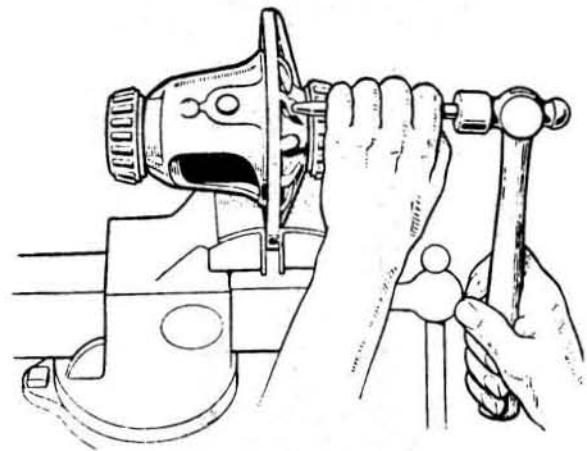

Fig.8.11. Driving out the pinion mate shaft locking pin
- 4 Drive out the pinion mate shaft locking pin. This pin is secured by peening to the case and can only be driven out in one direction as illustrated in Fig.8.11.